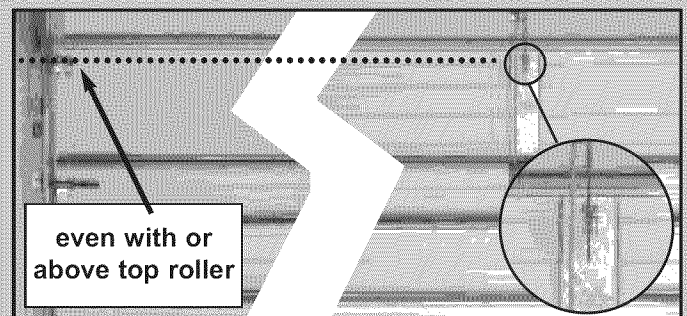

FIG. 2-7 Mounting door Bracket (sectional).
NOTE: In the case of sectional type doors, door bracket must be mounted **NO LOWER THAN** top set of rollers (Fig. 2-7).
- Position rail/power head assembly (Fig. 2-7).